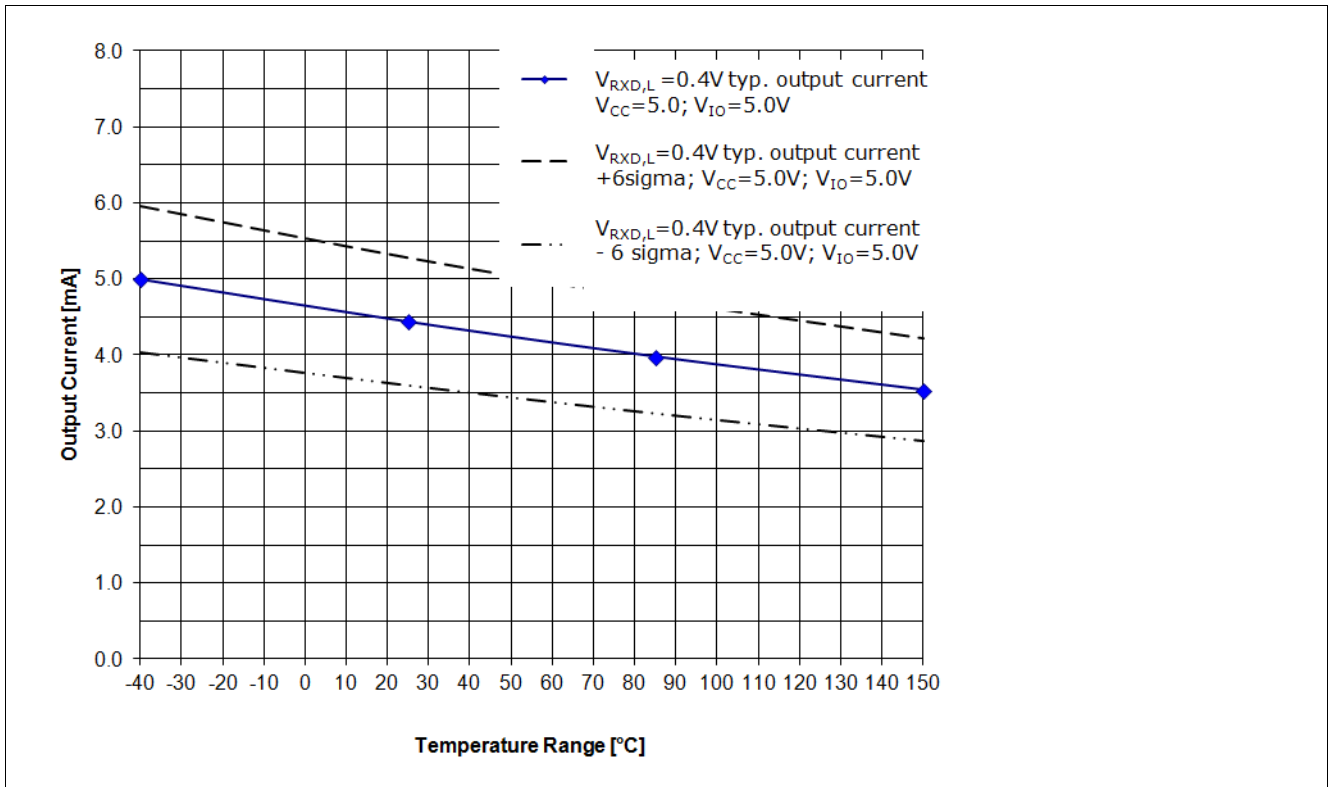
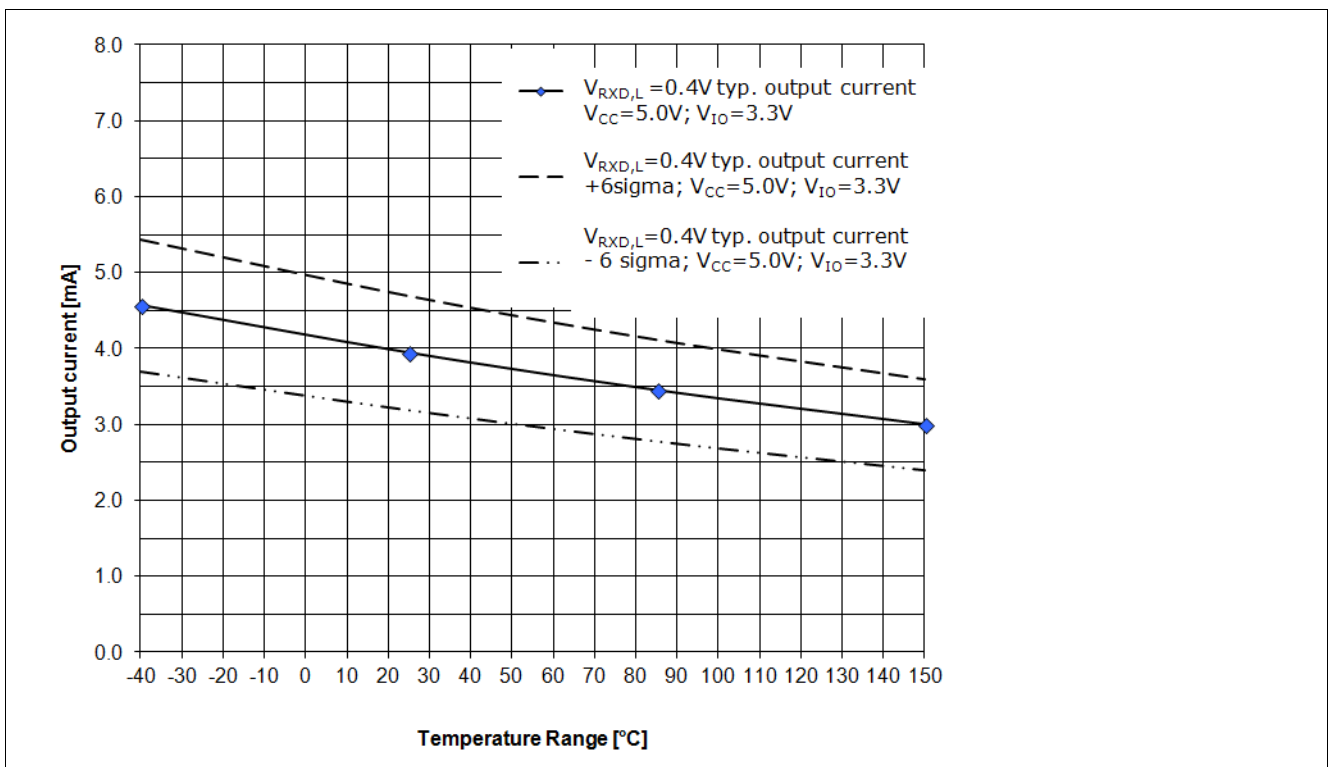

Figure 13 RxD Output driver capability for a logical “Low” signal $V_{RxD,H}=0.4\text{ V}$, $V_{CC}=5.0\text{ V}$, $V_{IO}=5.0\text{ V}^1)$
Figure 14 RxD Output driver capability for a logical “Low” signal $V_{RxD,H}=0.4\text{ V}$, $V_{CC}=5.0\text{ V}$, $V_{IO}=3.3\text{ V}^1)$
The diagram in Figure 13 and the diagram in Figure 14 show the current capability of the RxD output pin depended on the chip temperature T_J . Figure 13 shows the current capability of the RxD output pin at a V_{IO} power supply of 5.0 V and Figure 14 shows the current capability of the RxD output pin at a V_{IO} power supply of 3.3 V.
- The curve “ $V_{RxD,L} = 0.4$ V; **typ. output current**; $V_{CC} = 5.0$ V; $V_{IO} = 5.0$ V;” displays the typical output current at the RxD output pin of the TLE8250GVIO (see Figure 13).
- The curve “ $V_{\text{RxD,H}} = 0.4 \text{ V}$; **typ. output current + 6 sigma**; $V_{\text{CC}} = 5.0 \text{ V}$; $V_{\text{IO}} = 5.0 \text{ V}$,” displays the expected maximum value of the output current at the RxD output pin (see Figure 13).
- The curve “ $V_{\text{RxD,H}} = 0.4 \text{ V}$; **typ. output current - 6 sigma**; $V_{\text{CC}} = 5.0 \text{ V}$; $V_{\text{IO}} = 5.0 \text{ V}$,” displays the expected minimum value of the output current at the RxD output pin (see Figure 13).
- The curve “ $V_{\text{RxD,H}} = 0.4 \text{ V}$; **typ. output current**; $V_{\text{CC}} = 5.0 \text{ V}$; $V_{\text{IO}} = 3.3 \text{ V}$,” displays the typical output current at the RxD output pin of the TLE8250GVIO (see Figure 14).
- The curve “ $V_{\text{RxD,H}} = 0.4 \text{ V}$; **typ. output current + 6 sigma**; $V_{\text{CC}} = 5.0 \text{ V}$; $V_{\text{IO}} = 3.3 \text{ V}$,” displays the expected maximum value of the output current at the RxD output pin (see Figure 14).
- The curve “ $V_{\text{RxD,H}} = 0.4 \text{ V}$; **typ. output current - 6 sigma**; $V_{\text{CC}} = 5.0 \text{ V}$; $V_{\text{IO}} = 3.3 \text{ V}$,” displays the expected minimum value of the output current at the RxD output pin (see Figure 14).